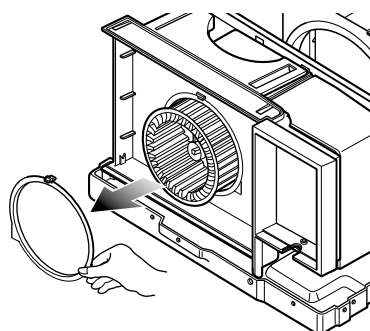

Figure 19
12. Pull out the hook of orifice by pushing the tabs and remove it. (See Figure 19)